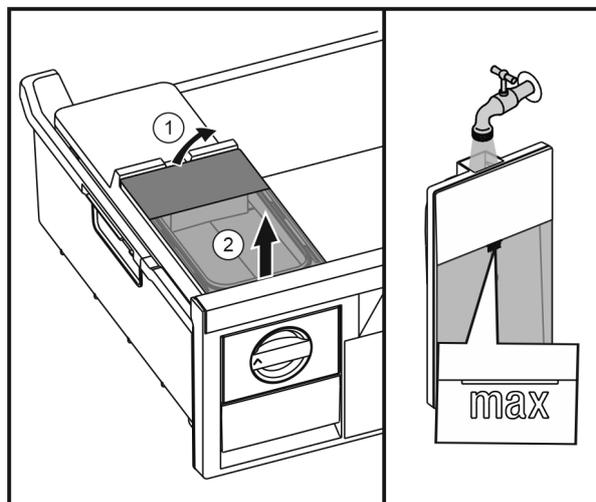

Fig. 55
- ▶ Lift up the water tank at the rear Fig. 55 (1) and take it out upwards Fig. 55 (2).